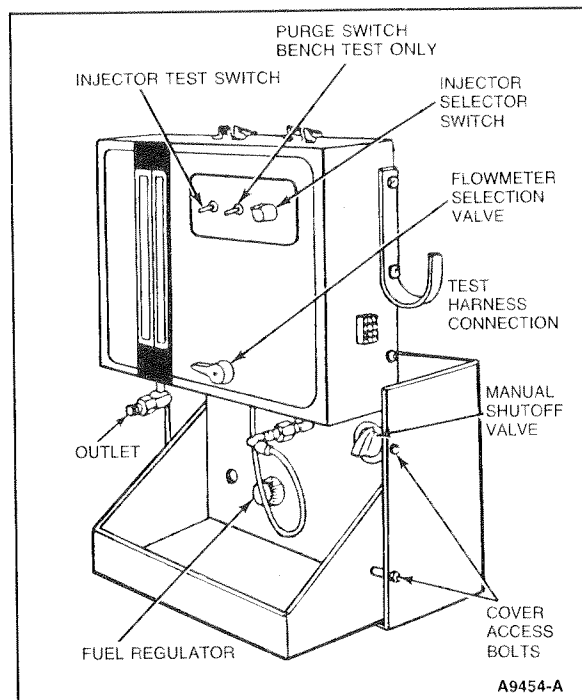
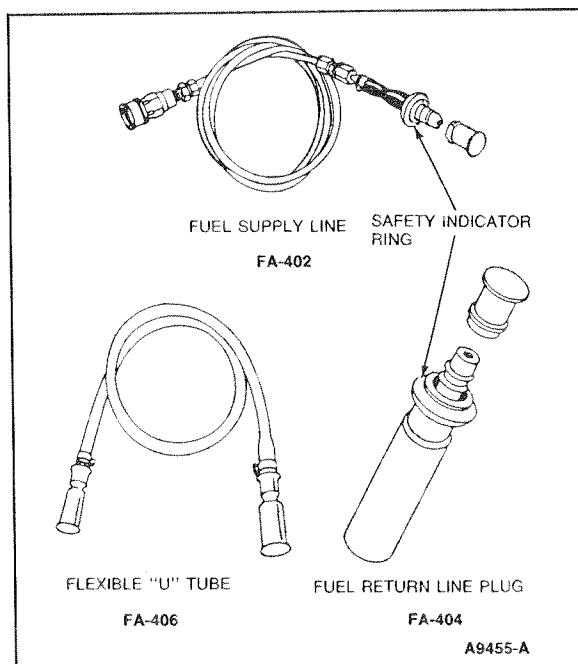
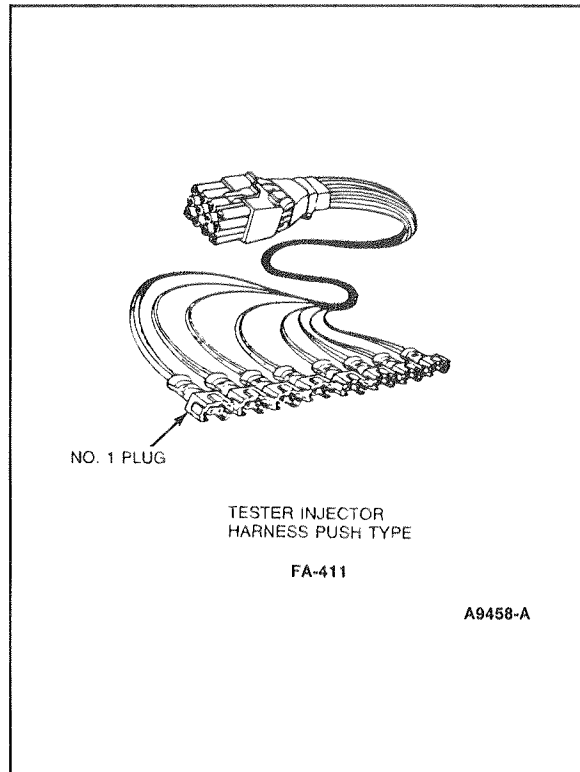

Figure 3
Figure 4
Figure 7
1. Check that the manual shutoff valve, (Figure 3) at the back of test stand is in ON (open) position.
3. Connect the fuel supply hose FA-402 (Figure 4) to the fuel supply outlet (Figure 3) and to the Bench Fixture (Figure 9).
5. Connect the No. 1 tester harness connector (Figure 7) to the fuel injector. Turn the injector selector switch (Figure 3) to No. 1 position.
9. Press the injector test switch (Figure 3) and the purge switch together for about 30 seconds to eliminate air from the supply hose and injector.
11. Press injector test switch (Figure 3) to test injector, observe float in flowmeter.